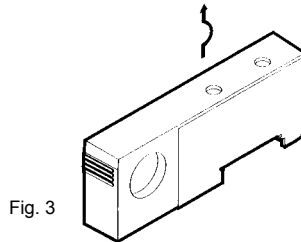

Fig. 3
- (1) Open the cover of the end block wiring duct portion.
- (2) Loosen the screws 6 or 7 times to pinch and pull out the connecting key.
- (3) Shift the end block by 4 mm and pull in the direction of the arrow in Fig. 3 to remove.